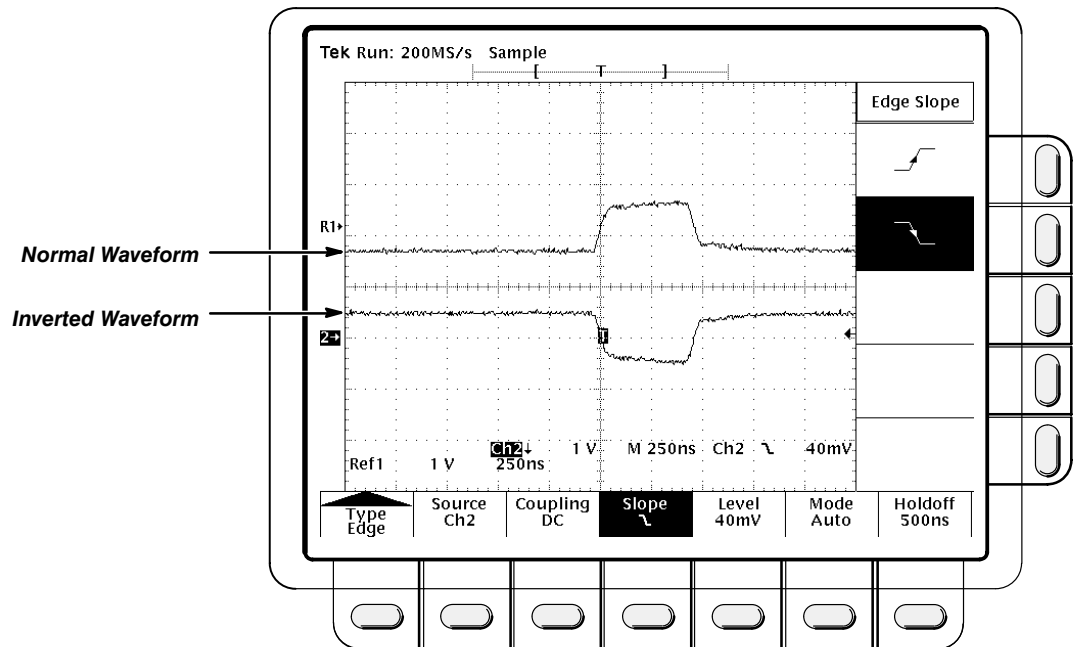

Figure 3-6: Inverting a Waveform
**Invert a Waveform** — Press the main menu button **Invert**. Use the side menu to turn invert off and on. When you turn invert on, the selected waveform “flips” around the zero volt axis. Figure 3-6 shows an inverted pulse signal.